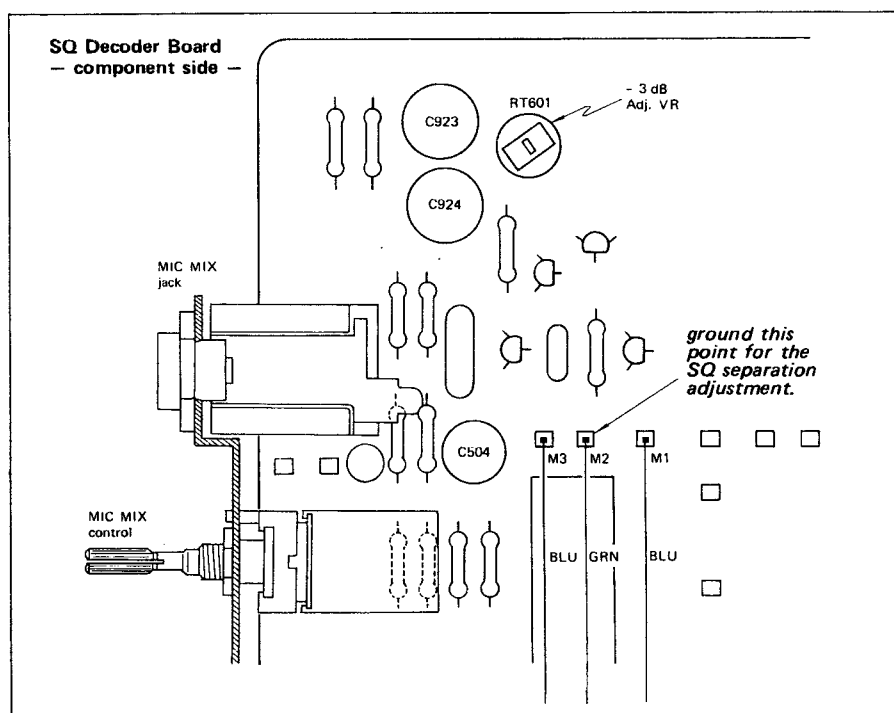

Fig. 3-11. SQ separation adjustment
5. Adjust RT601 (see Fig. 3-11) so that when the pin shown in Fig. 3-11 is grounded, the output level at Lf speaker terminal drops by 3 dB (from +11.2 dB to +8.2 dB). Make sure that the output level goes back to +11.2 dB when the pin is ungrounded.